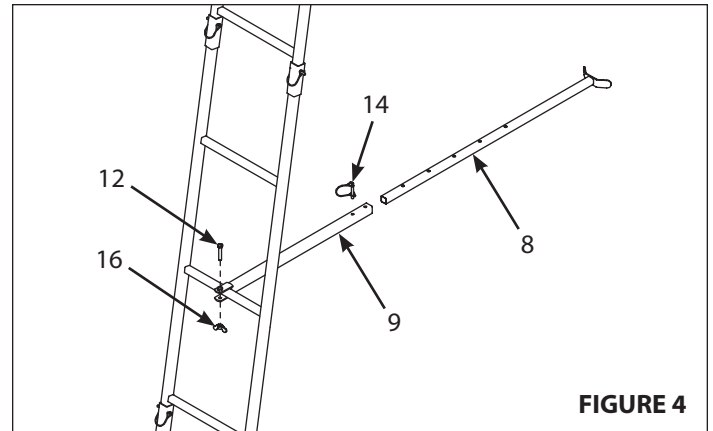

FIGURE 4
- a. Slide the horizontal stabilizer bar "A" (8) into horizontal stabilizer bar "B" (9) and secure together with spring lock pin (14). **SEE FIGURE 4**
- b. Attach the forward end of the horizontal stabilizer bar assembly to a rung of the ladder using M8 x 45mm bolt (12) and M8 wing nut (16). **SEE FIGURE 4**
5. While two people hold the stand in place, the third person should connect the Horizontal Stabilizer Bar to the tree. The Horizontal Stabilizer Bar should be attached to the ladder at the highest ladder rung reachable from the ground. Refer back to the Assembly Instructions and **FIGURE 4** if an adjustment is needed. Once the Horizontal Stabilizer Bar properly secured to the ladder, secure it to the tree with the 6' cam strap (19) by forming a cinch knot with both ends of the strap. **SEE FIGURES 7 AND 8**